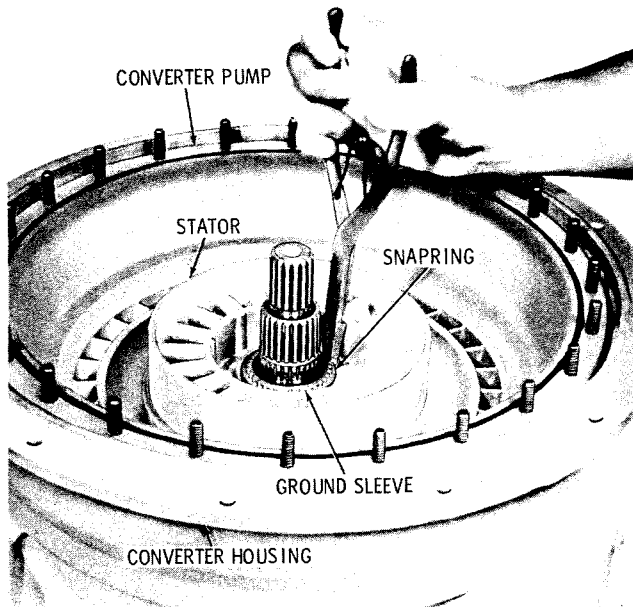

Fig. 5-10. Removing stator snapping
(2) Remove the snapping which retains the converter stator (fig. 5-10). Remove the stator.